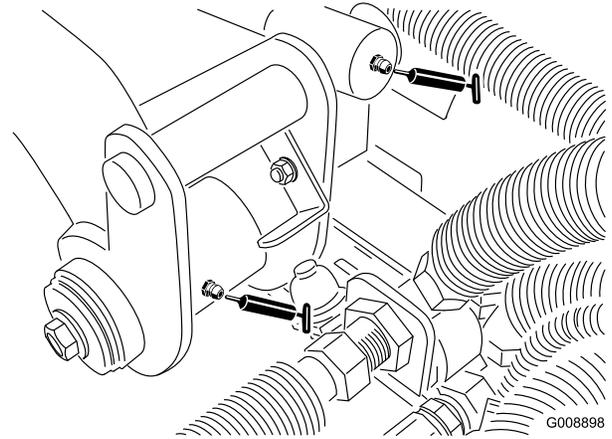

Figure 37
- Rear lift-arm pivot and lift cylinder 2 (Figure 37)